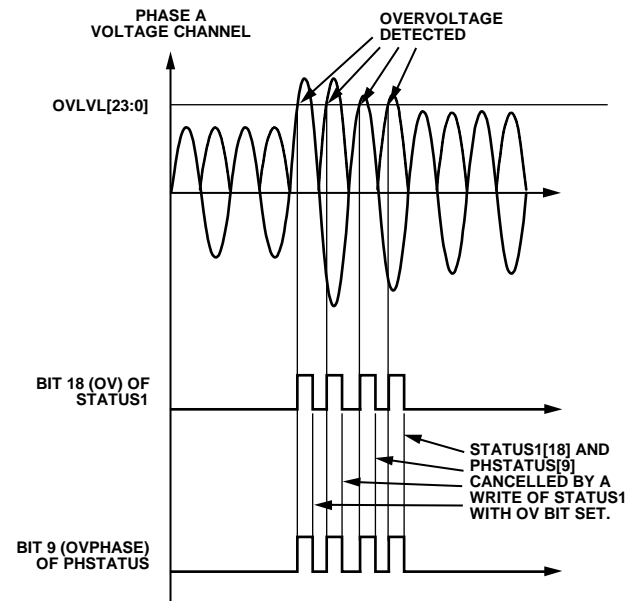

Figure 54. Overvoltage Detection
The ADE7978 detects when the instantaneous absolute value measured on the phase voltage and current channels becomes greater than the thresholds set in the OVLVL and OILVL 24-bit unsigned registers. If Bit 18 (OV) in the MASK1 register is set, the $\overline{\text{IRQ1}}$ interrupt pin is driven low in case of an overvoltage event. There are two status flags set when the $\overline{\text{IRQ1}}$ interrupt pin is driven low: Bit 18 (OV) in the STATUS1 register and one of Bits[11:9] (OVPHASE[2:0]) in the PHSTATUS register to identify the phase that generated the overvoltage. The Status Bit 18 (OV) in the STATUS1 register and all Bits[11:9] (OVPHASE[2:0]) in the PHSTATUS register are cleared, and the $\overline{\text{IRQ1}}$ pin is set to high by writing to the STATUS1 register with the status bit set to 1. Figure 54 presents overvoltage detection in the Phase A voltage.